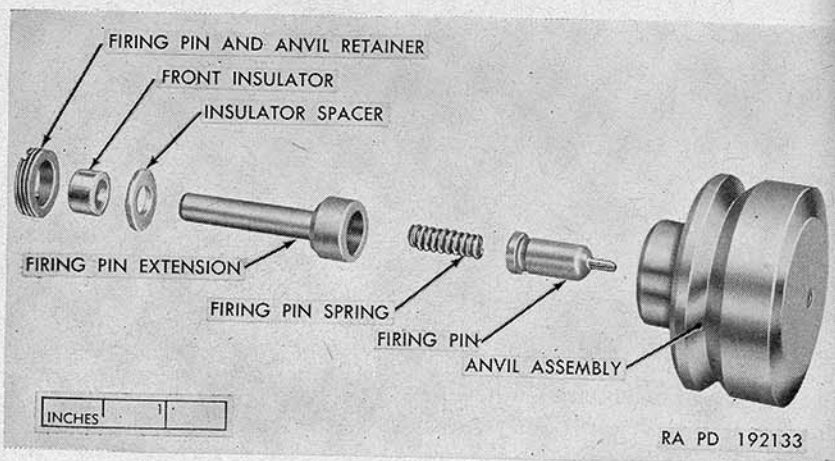

Figure 93. Firing pin and anvil parts—exploded view.
b. To disassemble the firing pin and anvil assembly perform the operations in (1) through (4) below.
- (1) Using the firing pin retainer face spanner wrench (fig. 89), remove the firing pin and anvil retainer, threaded into rear of the firing pin and anvil (fig. 93).
- (2) Pull out the firing pin extension and remove the front insulator and the insulator spacer.
- (3) Withdraw the firing pin spring and firing pin.
- (4) Further disassembly of the anvil assembly is prohibited.
a. Install the firing pin spring in the firing pin (fig. 93) and insert both units into the anvil assembly.
b. Install the front insulator on the firing pin extension (fig. 93).
c. Install the insulator spacer on the front insulator and position against the shoulder of the firing pin extension (fig. 93).
d. Insert the firing pin extension over the firing pin spring (fig. 93).